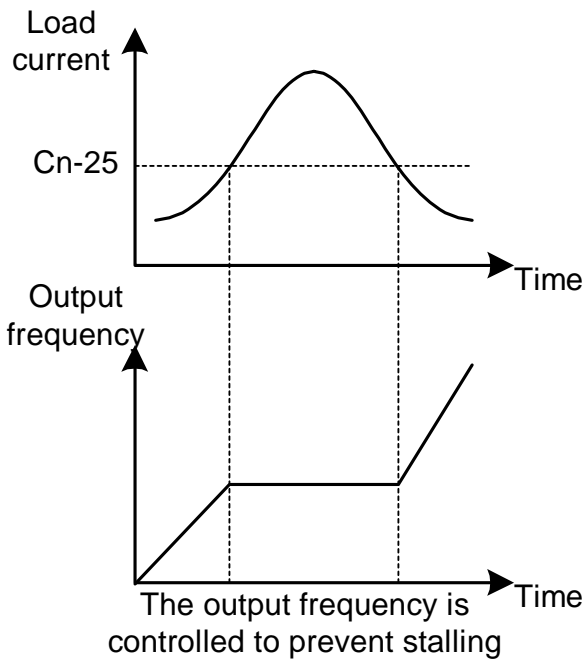

Fig. 21 Acceleration stall prevention function
- b. When the fault-reset input is received after the protection operation has been activated and the fault confirmed. (e.g., by pressing  or enable Fault reset terminal ③)
(19) Stall Prevention Level During Acceleration (Cn-25)
(20) Stall Prevention Level During Running (Cn-26)
- Stall Prevention During Acceleration: See Fig.21. Stop acceleration if Cn-25 setting is exceeded. Accelerate again when the current recovers.